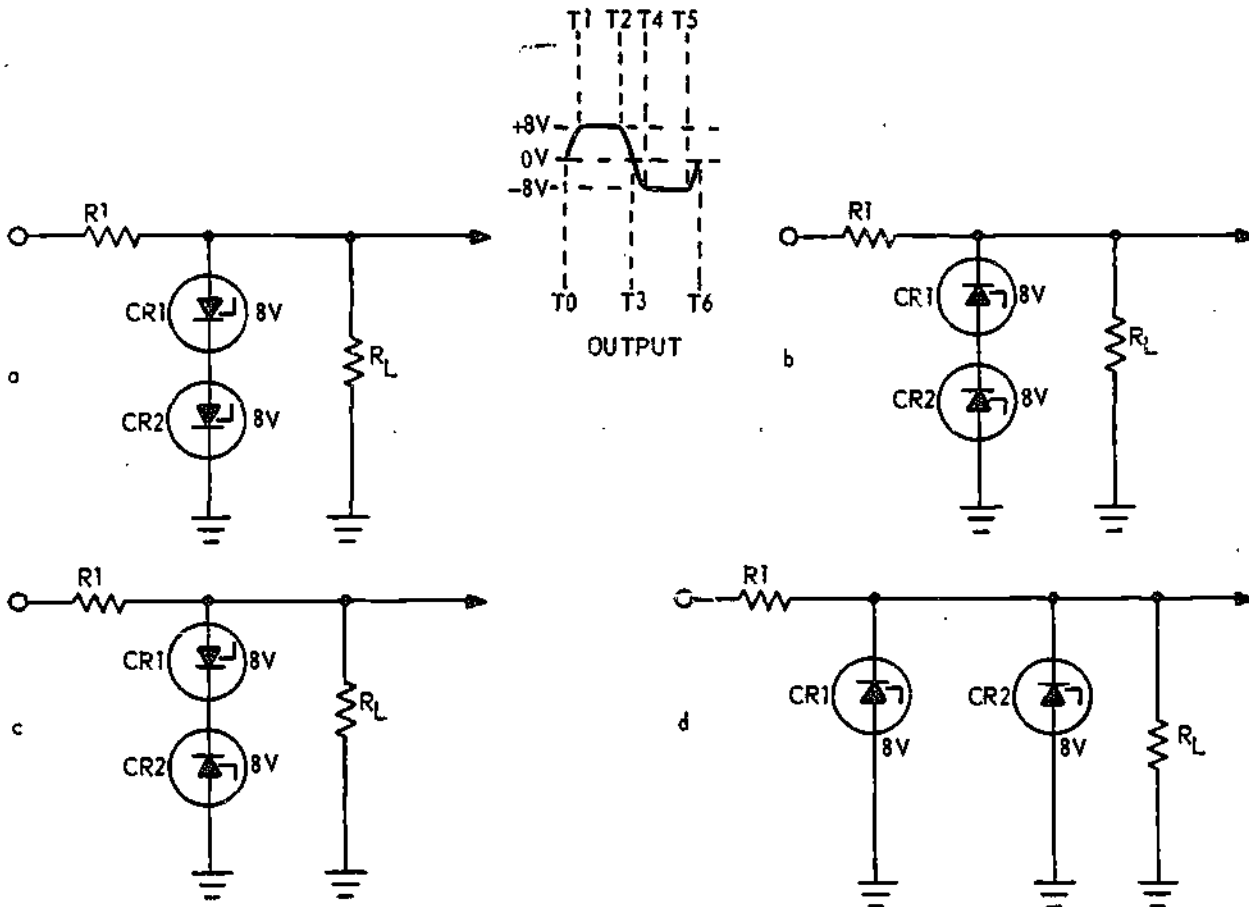

Figure 50-3. Zener Diode Limiters
2. Which of the circuits shown in figure 50-3 would provide the output signal shown?